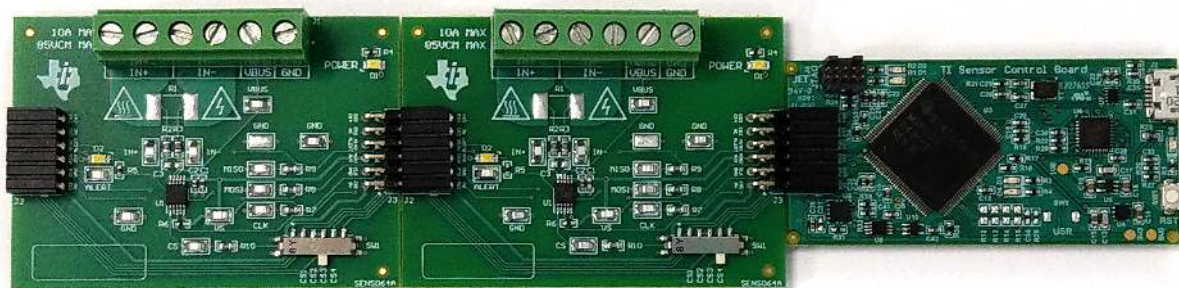

Figure 4-2. Multiple EVMs Connected to SCB Controller
- a. Refer to Figure 4-2 when connecting multiple EVMs of the same type together.
If using multiple EVMs, connect them as shown in Figure 4-2. Make sure to use a different chip select/address for each device. The GUI only supports one EVM/device type at a time, up to 4 EVMs total.